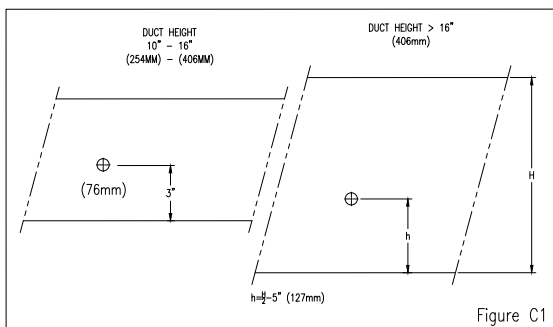

Figure C1
A CS-58 Dual Outlet Adapter is available to convert to two (2) 1 1/2" outlets to a single 2" hose connection. Figures C1 and C2 reflect the spacing required within the duct. Note: the standard steam distributors are sloped to return condensate to the humidifier.